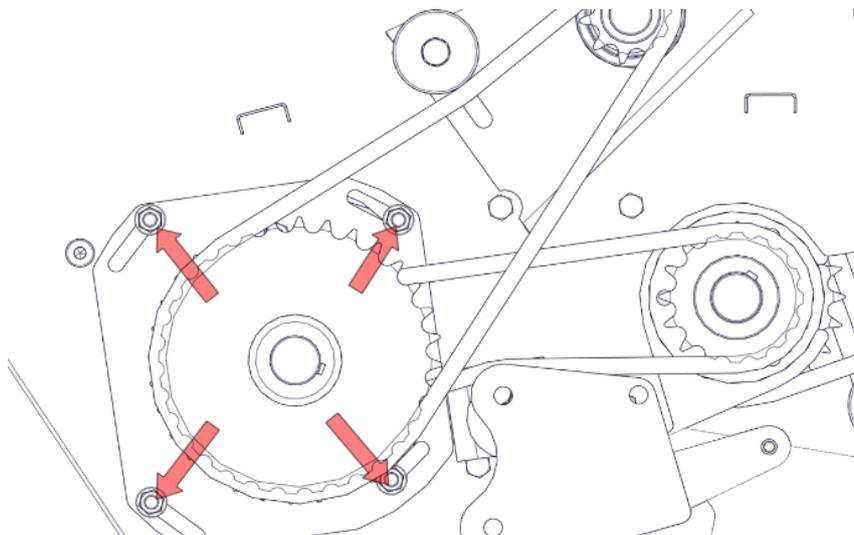

Figure 21. Pick-up cam adjustment
- Loosen 4 nuts that hold the cam (**Fig. 21**);